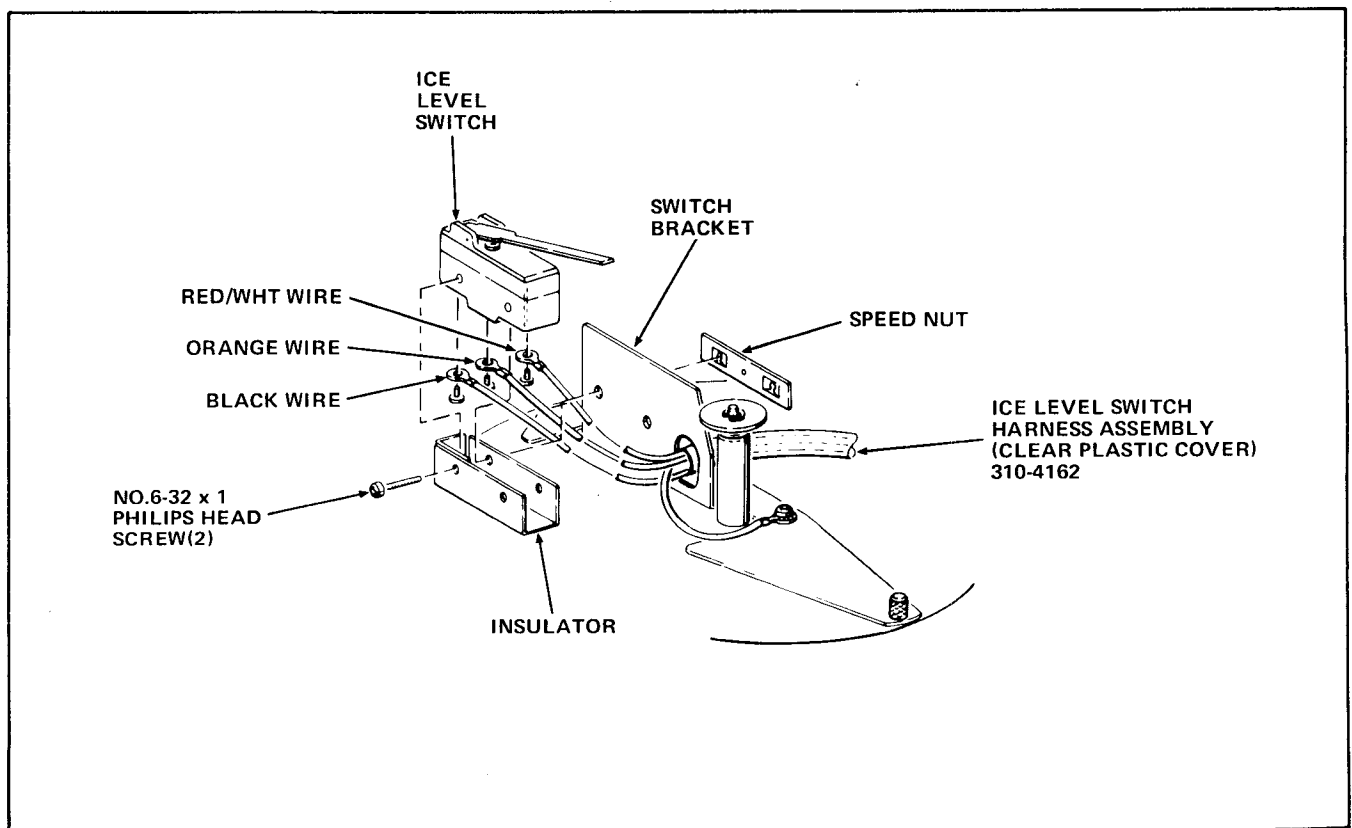

FIGURE III-3
12. Insert the replacement Ice Level Switch Harness Assembly, clear-plastic-covered, (part number 310-4162, included in the Kit) through the hole in the Switch Bracket from which the Cable Assembly was removed in step III-C7. Be sure the end of the Cable with the 4-brass ring-terminals is toward the Switch side of the Switch Bracket. See Figure III-3.